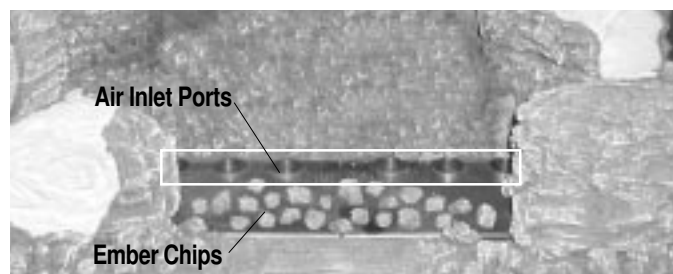

Figure 28c. Ember Chip placement.
3. Arrange the ember chips on top of the burner tray. Care should be taken when placing the ember chips, as blocked burner ports may cause an incorrect flame pattern, carbon deposits and delayed ignition. Also, the chips must never be placed in a way that obstructs any of the air inlet ports, located at the rear of the burner, as shown in figure 28c.